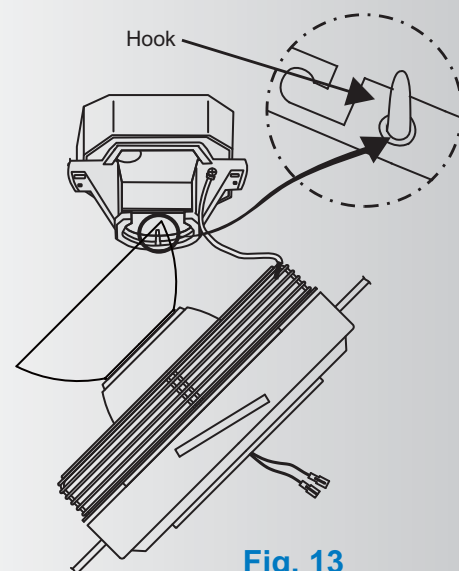

Fig. 13
Step 2. Hang the fan on the ceiling mounting bracket by inserting the hook on the inside edge of the ceiling mounting bracket through one of the screw holes in the ceiling canopy (Fig. 13). This will allow you to have both hands free to make the wiring connections.